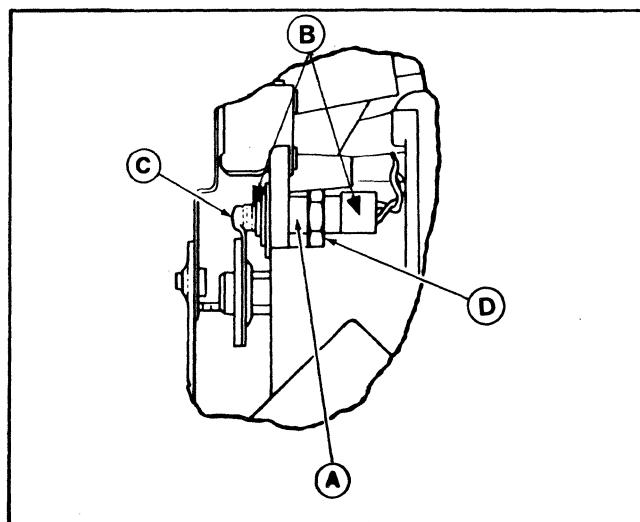

Figure 3-14. Printwheel Home Adjustment
- (5) Printwheel Home Adjustment (Figure 3-14). Tilt the printwheel motor forward, away from the platen, and remove the alignment tool. Install a printwheel and initiate a RESTORE sequence. The printwheel logic includes a safety feature called "retry." This feature helps, during the RESTORE sequence, to ensure that the printer microprocessor has the right count in its absolute counter for printwheel position. The printwheel is allowed to stop only at those points where the signal +PW EVEN is high, which occurs only once per printwheel position, or "petal" position. If the printwheel fails to
- Use a 7/16" open end wrench to adjust the home sensor eccentric (A) as follows: move the eccentric slightly, in either direction, and RESTORE the printer. Continue adjusting the eccentric in that direction, a little at a time, until the printwheel spins (8 revolutions) and the printer goes into its CHECK mode. Note this eccentric position.
- (d) If the printwheel spins continuously (8 revolutions), the sensor (B) may be located too far from the printwheel home sensor flag (C). Loosen nut (D) and rotate the sensor clockwise until the printwheel stops on the first revolution. Use a plastic shim to verify .003" to .007" (.08-.18mm) clearance between the surface of the sensor and the edge of the flag. Retighten nut (D).
- (e) The electrical signal out of the sensor should be at least .4 volts peak. Figure 3-14 illustrates this signal, as seen at the input to the Printwheel Home Sensor amplifier on the SERVO board.